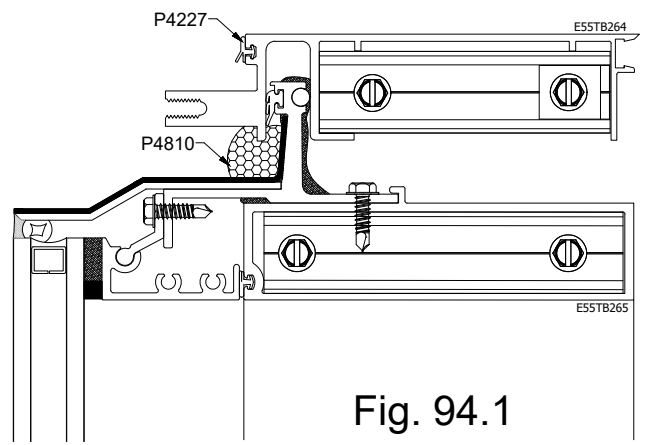

Fig. 94.1
- Step 1: Install P4810 foam rod at chicken head splice, set in sealant to hold in place. See Fig. 94.1
- Step 2: Install next portion of assembled 400T back support member sliding sill cope over head of chicken head and secure back member framing maintaining gap required for movements. See Fig. 94.1